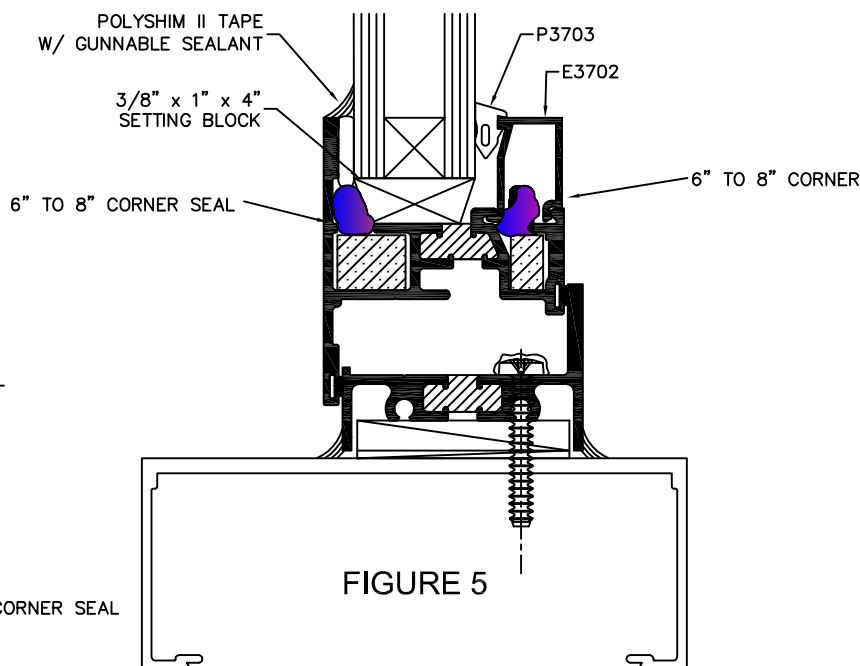

FIGURE 5
1. APPLY TREMCO POLYSHIM II GLAZING TAPE CONTINUOUS TO SASH AS INDICATED IN FIGURES 5 AND 6. BACK UP JOINTS WITH 6" TO 8" LONG BEAD OF BUTYL SEALANT AT EACH CORNER. SEE NEXT PAGE FOR CORNER DETAIL.
2. INSTALL 3/8" x 1" SETTING BLOCKS AT 1/4 POINTS AS SHOWN IN FIGURES 5 AND 6.
- A. USE E3702 FOR 1" GLASS (SEE FIGURE 5).
- B. SWING BOTTOM OF WINDOW INTO PLACE AND SET ON SETTING BLOCK (SEE FIGURE 5).